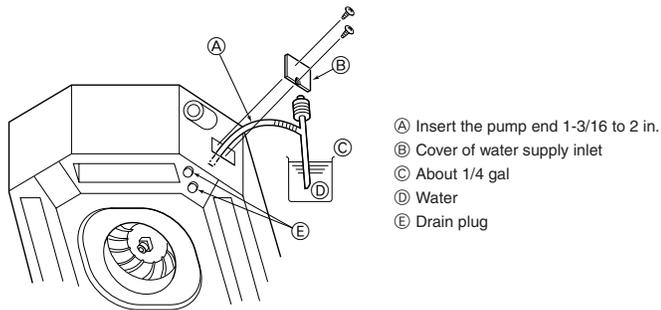

Fig. 7-2
7.3. Check of drainage (Fig. 7-2)